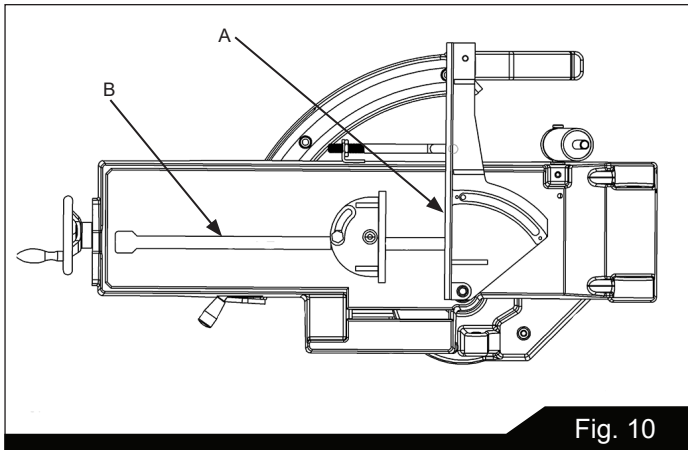

Fig. 10
The procedure for setting the vise for square cuts is identical to setting for angle cuts (above) except that a machinist's square is used to set the angle of the fixed vise jaw (A, Fig. 10). Align one side of the square with the side of the slot (B, Fig. 10) in the table.
1. Clamp the workpiece in the vise. Refer to Figures 10 and 11 for examples of workpieces in the vise.